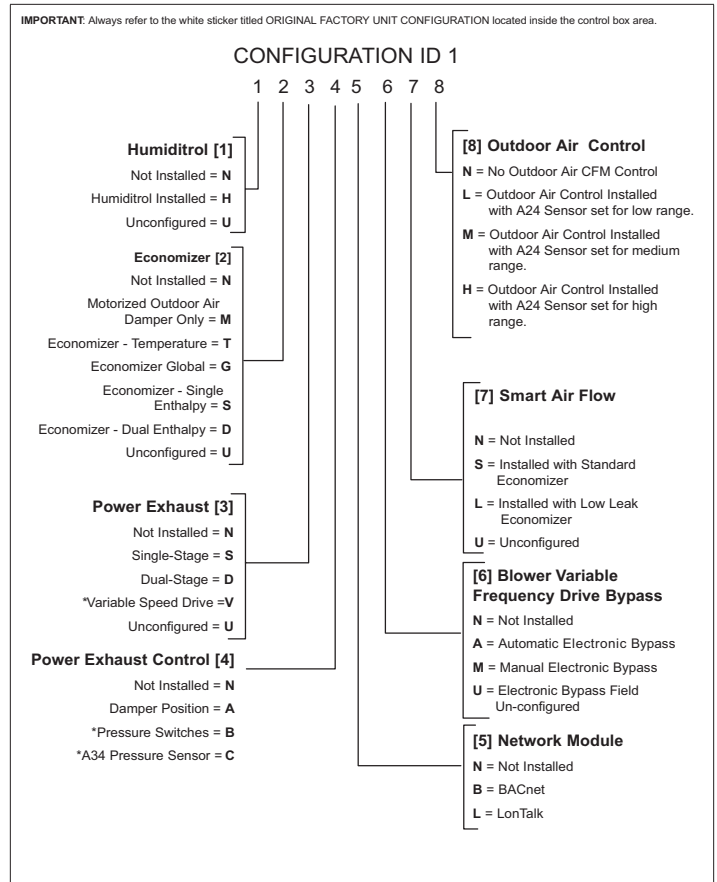
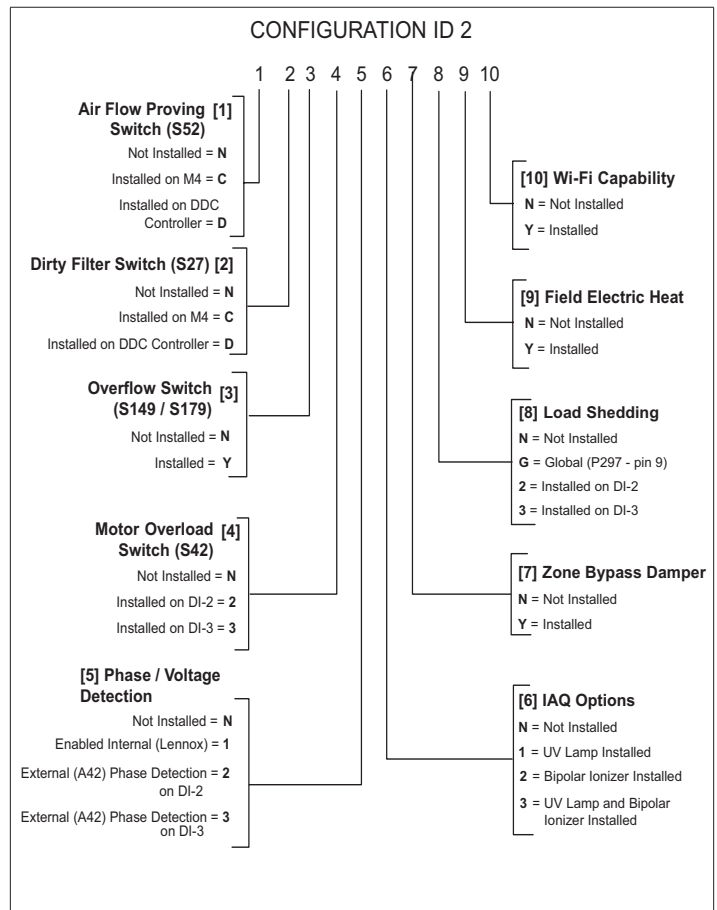

Figure 7. Configuration ID 1
Figure 8. Configuration ID 2
- RTU Information. Configuration ID 1 and 2 can be entered here. See figures “Figure 7. Configuration ID 1” on page 11 and “Figure 8. Configuration ID 2” on page 11 for further details.